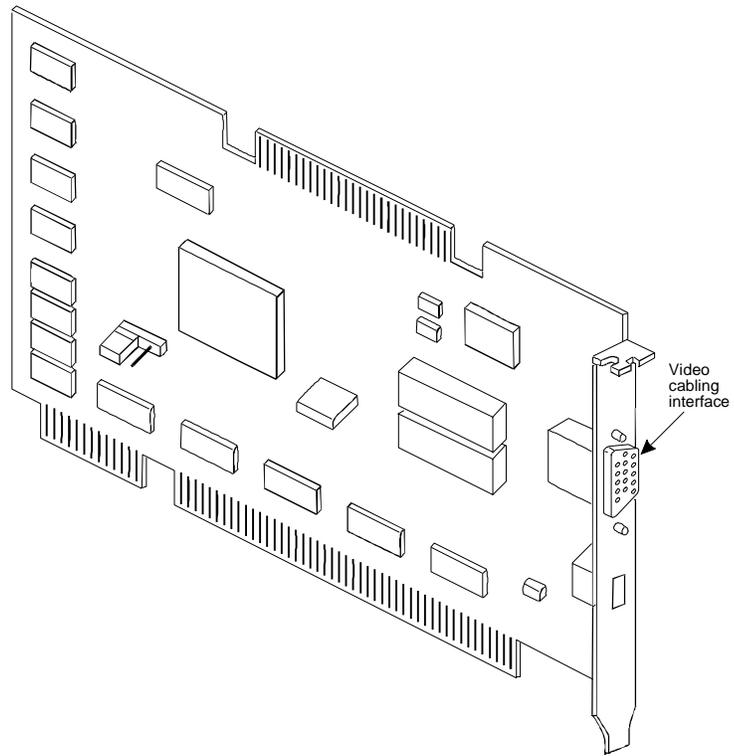

Figure 3-1. Location of the Video Cabling Interface on the Video Controller Circuit Card
2. Plug the signal cable connector from the monitor directly into the video connector on the Video Controller card. This is a 15-pin, high-density D subminiature female connector that is located on the faceplate (Figure 3-1).